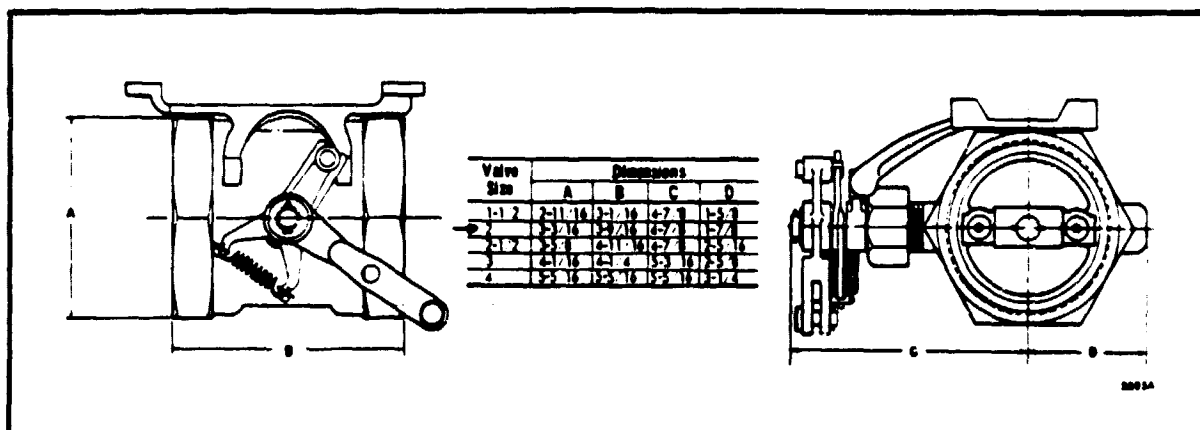

FIG. 2—APPROXIMATE DIMENSIONS (IN INCHES) OF V51E ASSEMBLY.
**DIMENSIONS:** See Figure 2.
Electric motorized valves of this type should not be installed in poorly ventilated pits or confined spaces when they are to control the flow of combustible gases. The valve body may be installed in any position, provided the motor shaft is horizontal. Allow sufficient clearance for assembling the motor and linkage, packing the valve, and general servicing. See Fig. 2 for approximate installation dimensions.